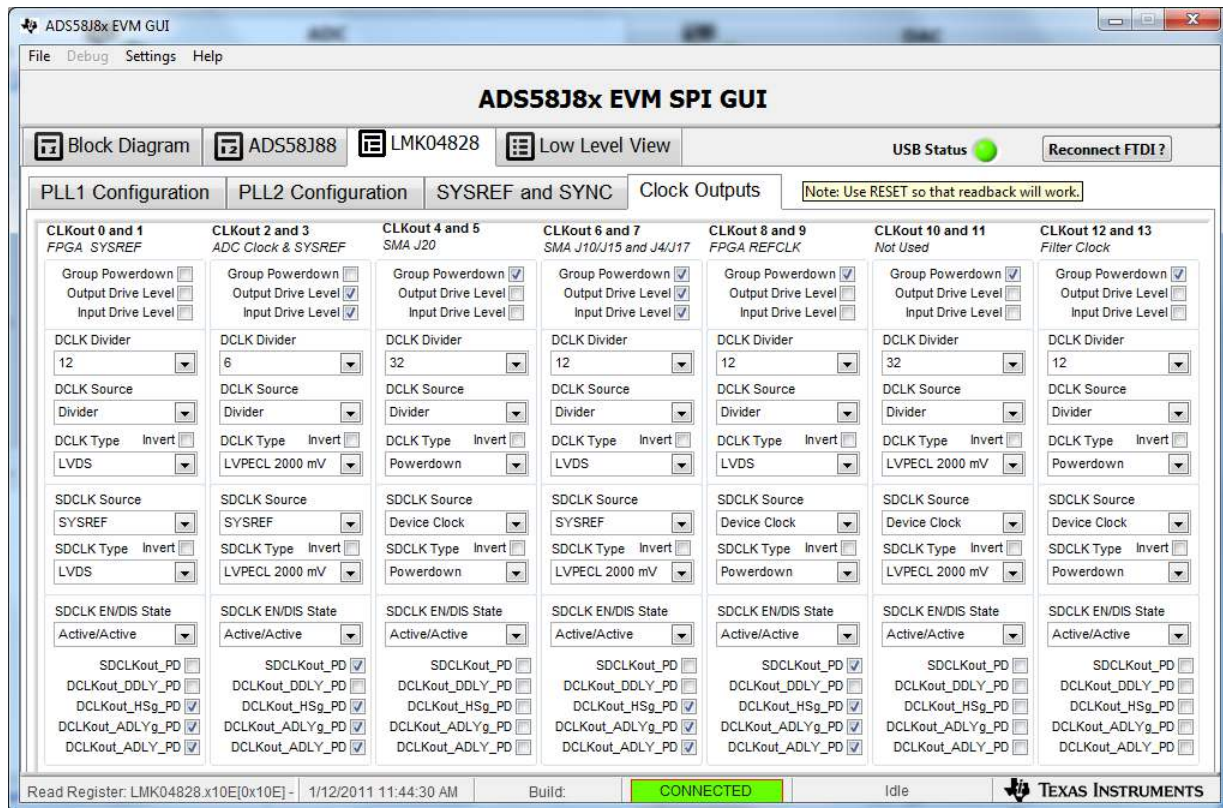

Figure 8. LMK04828 Clock Outputs Tab
Clicking *Clock Outputs* opens the LMK04828 Clock Outputs tab, shown in Figure 8. This tab is organized into 7 sections representing the 7 pairs of DCLK/SYSREF that the LMK04828 can generate. For each of the 7 pairs of DCLK/SYSREF there are a number of controls that apply to both outputs, such as the option to power down the pair of signals completely if not needed. For both DCLK and SYSREF there is an option to select what type of output driver is to be used, such as LVDS or LVPECL. There are controls to enable things like delay or inversion. For the DCLK, there is a control to select a divider ration to divide the PLL2 VCO clock down to the desired output frequency. For example, if the ADS58J89 EVM is to be operated at 500Mps then the configuration file supplied with the GUI will select the 3.0GHz VCO and select a divider ratio of 6 to generate a 500-MHz DCLK. If the TSW14J56 capture card is used, the TSW14J56 needs to see a DCLK reference that is one-twentieth the line rate of the serial data stream so the divider ratio chosen is 12 to generate a 250-MHz DCLK to the FMC connector. These two divider ratios can be seen in Figure 8.
9. Since a periodic SYSREF signal acts as a sub-harmonic clock of the converter sampling clock and may have spurious effect on the converter performance, it may be turned off during normal operation once synchronization has been achieved. Click on the tab labeled *LMK0428 Clock Outputs* located at the top of the GUI. Check the control for SDCLKout_PD in the block of controls for clocks CLKout 2 and 3. (See figure 8) This will power down the SYSREF to the ADS58J89. The SYSREF must be running initially in order to establish a JESD204B link between the ADS58J89 and the FPGA on the TSW14J56 but after initialization the SYSREF is no longer needed and may result in clock spurs coupling into the ADS58J89, reducing performance.